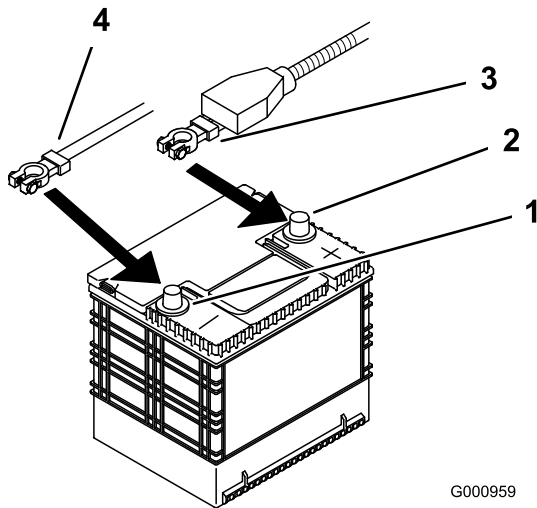

Figure 50
4. First disconnect the negative battery cable from the negative (-) battery terminal (Figure 50).
5. Slide the red terminal boot off the positive (red) battery terminal. Then remove the positive (red) battery cable (Figure 50).
1. Position battery in the tray with the terminal posts opposite from the hydraulic tank (Figure 50).
4. Secure the cables with 2 bolts (1/4 x 3/4 inch), 2 washers (1/4 inch), and 2 locknuts (1/4 inch) (Figure 50).